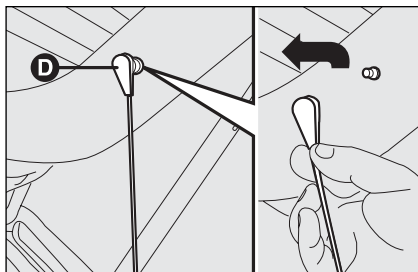

fig. 101
- ☐ remove the rear parcel shelf and release the upper ends **D**-fig. 101 of the two tie rods by removing eyelets from the pins and pushing them in arrow direction